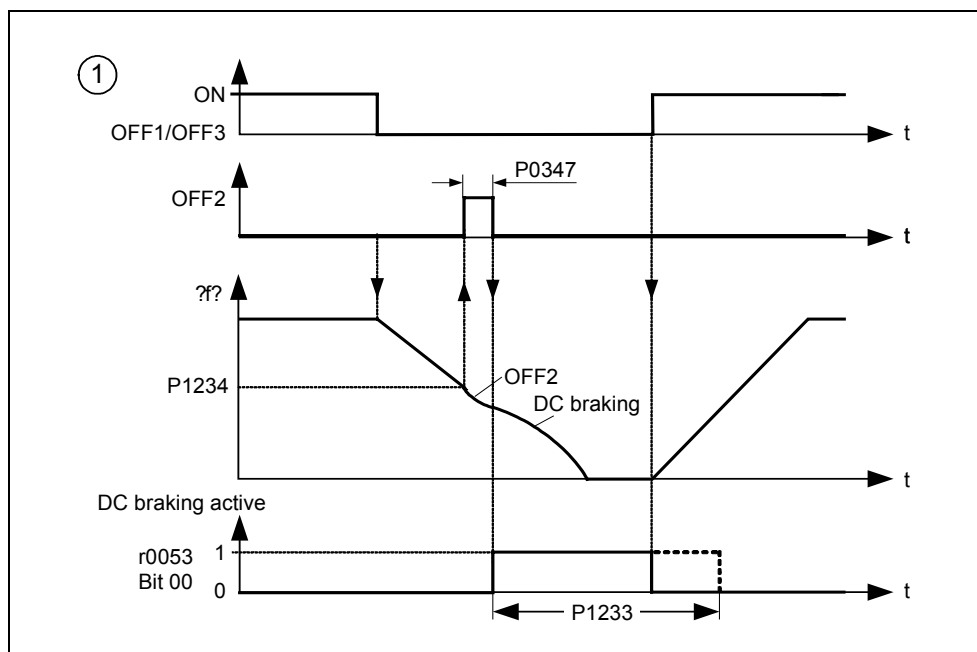

Fig. 3-52 DC braking after OFF1 / OFF3
2. DC braking is activated with the OFF1 or OFF3 command (refer to Fig. 3-52)